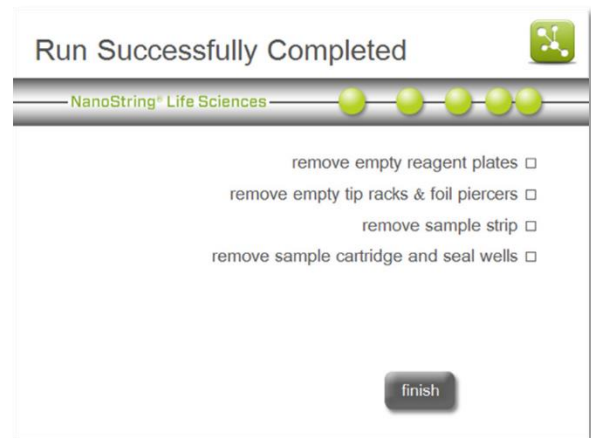

Figure 37: The 'Run Successfully Completed' screen.
19. The 'Run Successfully Complete' screen will appear (**Figure 37**).